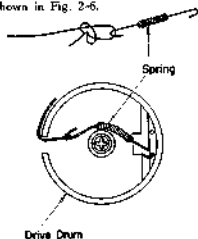

Fig. 2-6
- Tie the cord to one end of the spring and hook the other end of the spring to the drive drum as shown in Fig. 2-6.